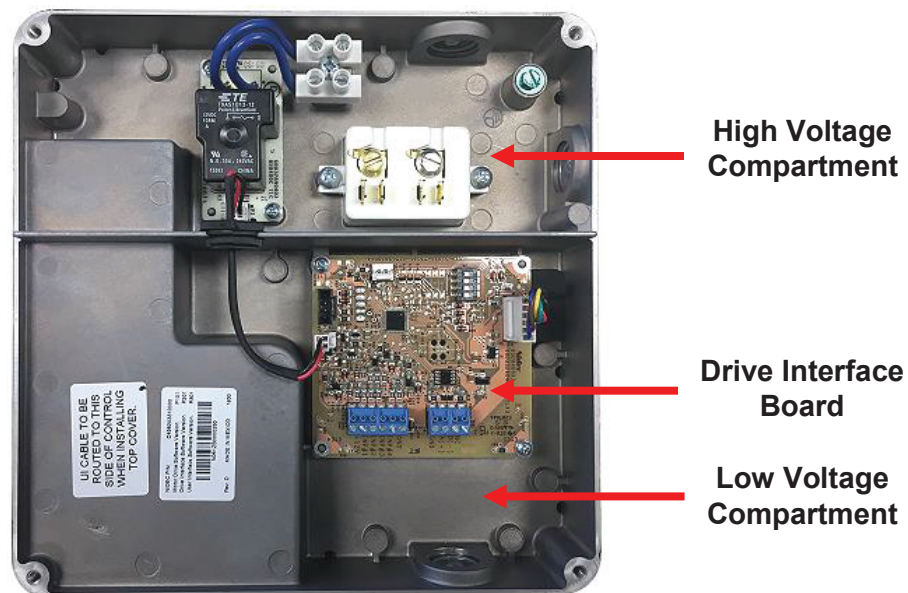

Figure 1 – High and Low Voltage Compartments
1. Remove the four (4) slotted head hex washer screws securing the User Interface Cover to the wiring compartments (Figure 1). Set the cover aside.
Input power and control signals are via conduit connections. There are two compartments: See Figure 1 on **page 10**.